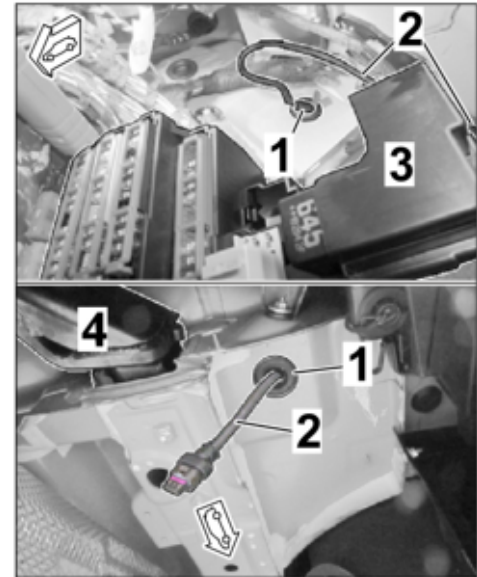

Figure 40
- 3.3 Guide connector (3-pin) through the bore to the underside of the vehicle and install sleeve into the bore (⇒ *Figure 40*).